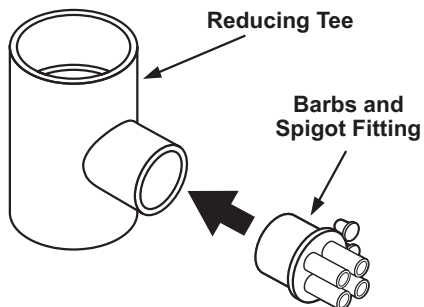

FIGURE 1A.
2. Use standard PVC cement (not included with kit) and glue the barbs & spigot fitting into the Reducing Tee. The fitting should be properly oriented for nice appearance. See Figure 1A.